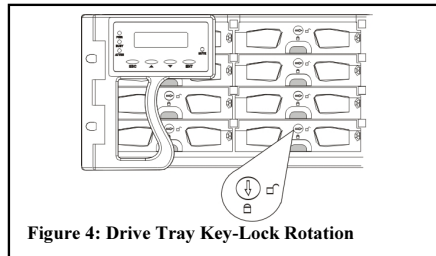

Figure 4: Drive Tray Key-Lock Rotation
- Close the front flap on the drive tray. Make sure the front flap is closed properly to ensure that the SATA connector at the back of the drive tray is firmly connected to the corresponding connector on the mid-plane board. If the front flap is not closed properly, then the connection between the HDD and the subsystem will not be secure. To lock the flap in place, turn the key-lock until the groove on its face is in a vertical orientation. (See *Figure 4*)